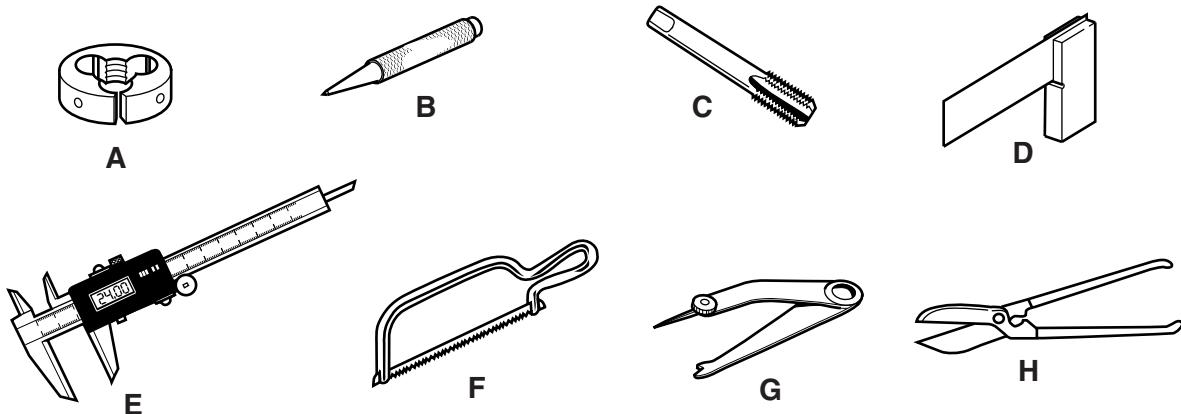

Fig. 3
- 17** Fig. 3 shows a number of hand tools used in a school workshop.